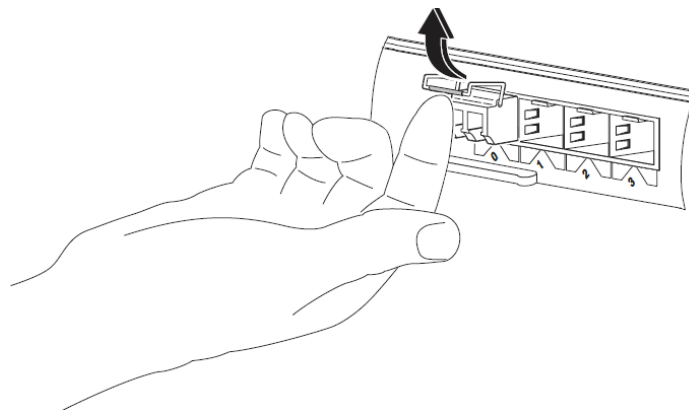

Figure 10 : Opening the bale clasp of an SFP+ Module
3. Open the bale clasp on the SFP+ module with your index finger, or a small flat-blade screwdriver, in a downward direction, as shown in Figure 10.